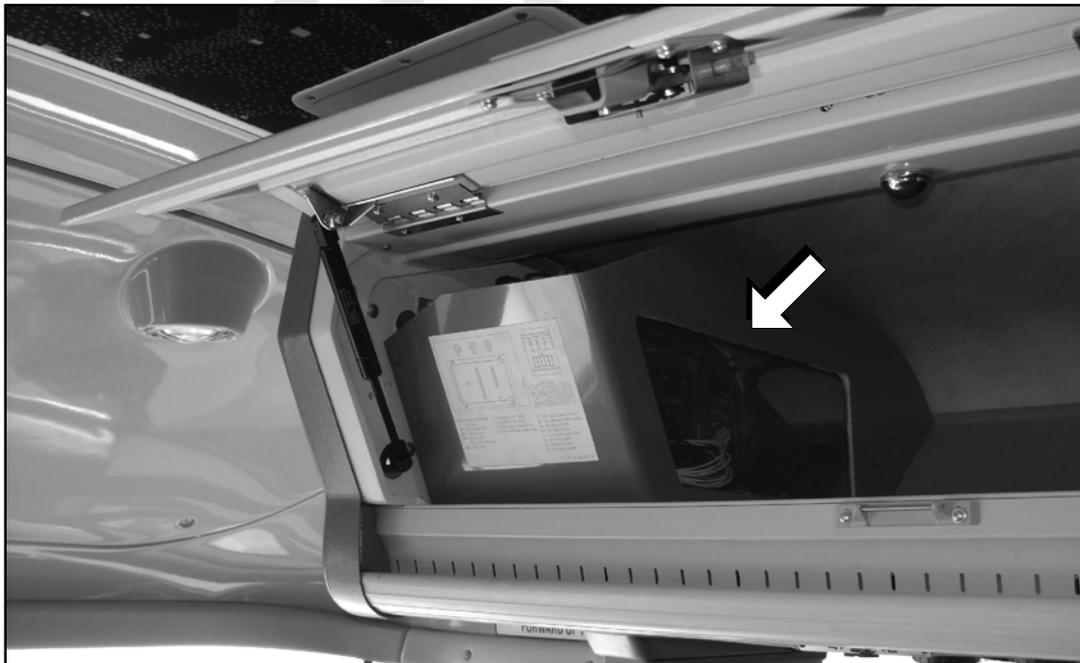

Figure 1.
4. Locate the junction box mounted to the parcel rack compartment wall (refer to Figure 1).